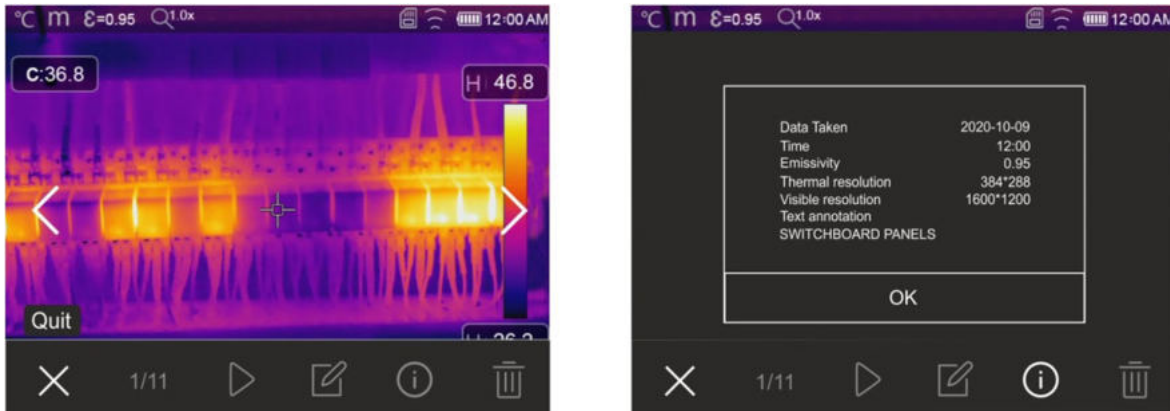

Fig. 51: Recalling on the display the images saved
1. Press key to enter the gallery of the images and videos saved in the instrument's memory or on the micro SD card. The following screen in Fig. 51 – left side is shown on the display
3. Touch the icon to open the section containing the information about the saved image. The screen in Fig. 51 – right side appears on the display.